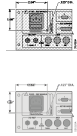

Figure 2. Drilling Location
3. Mark position indicated in Figure 2 on the rear panel of the Supervisor.